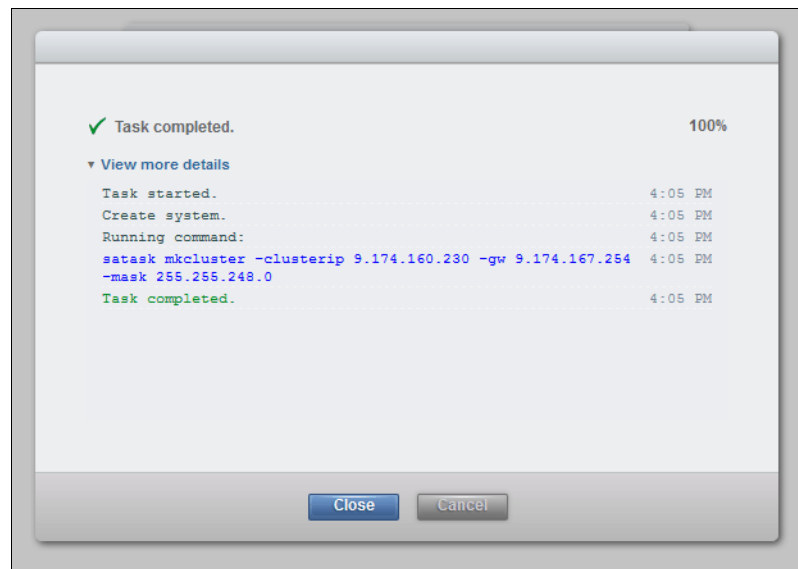

Figure 2-19 System initialization: Cluster creation
8. Complete all of the fields with the networking details for managing the system and click **Next**. When the task completes, as shown in Figure 2-19, click **Close**.